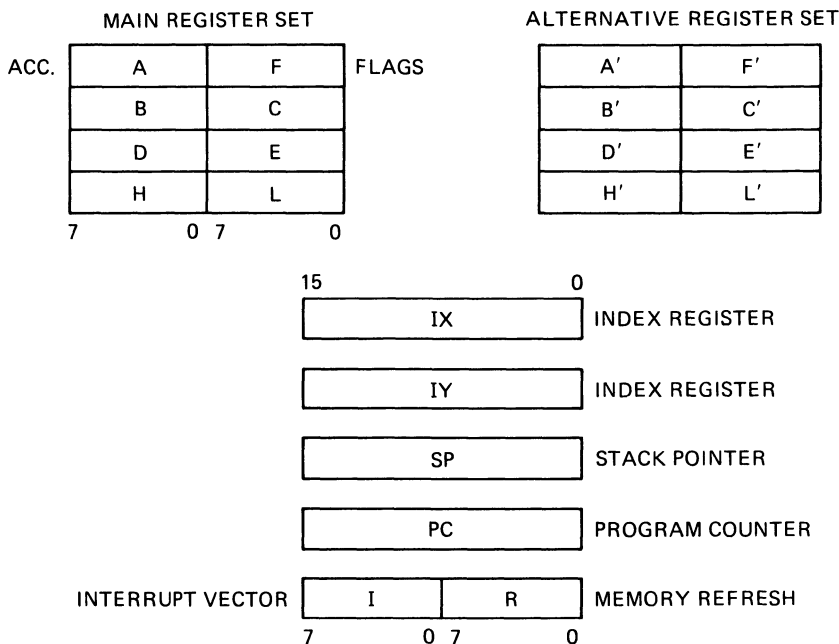

Figure 2.3 Z80 microprocessor registers.
Only one accumulator (A) is included but four general-purpose single byte registers — B, C, D, and E — allow a number of variables to be held in the processor. This saves time when they are required for computation since they can be loaded into the accumulator in four clock cycles compared with the seven cycles needed to fetch data from the external store. Two other registers (H and L) hold the address of the location in the store which is to be accessed, and if not needed for this can be used as general-purpose registers. The complete set is shown in figure 2.3.